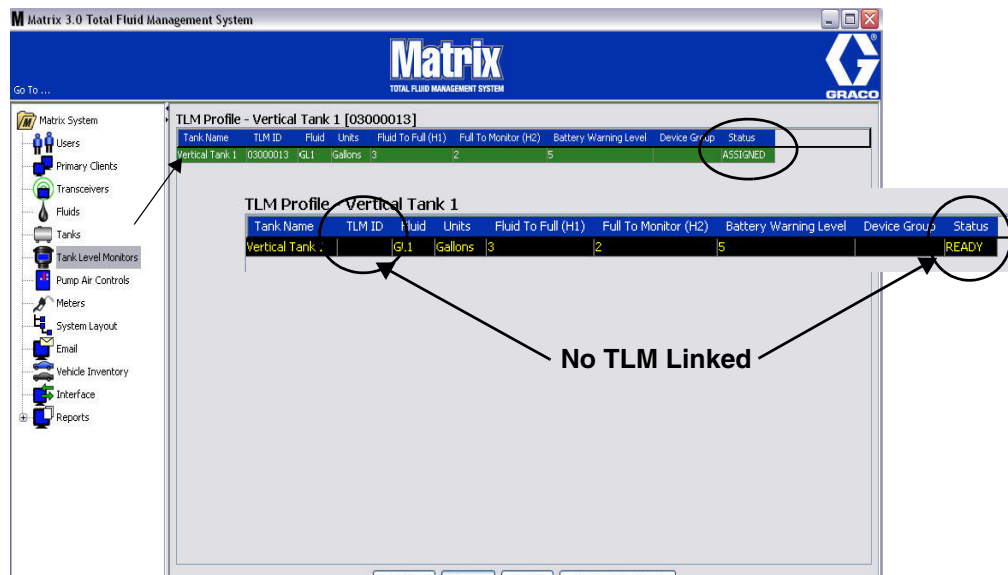

FIG. 109
3. When all fields have been completed, click the OK button on the bottom of the Add TLM Profile Screen. The profile is added to the top of the list. "Assigned" in the Status column confirms the profile is complete. "Ready" will appear in the Status column when the profile is incomplete. Notice in FIG. 109 the TLM ID field is blank indicating a TLM is not linked to Matrix system.